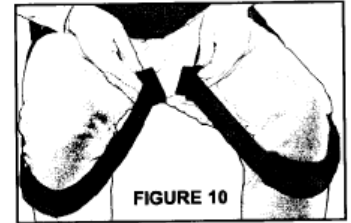

FIGURE 10
5. Fasten the slideable buckles between the legs. See Figure 10.